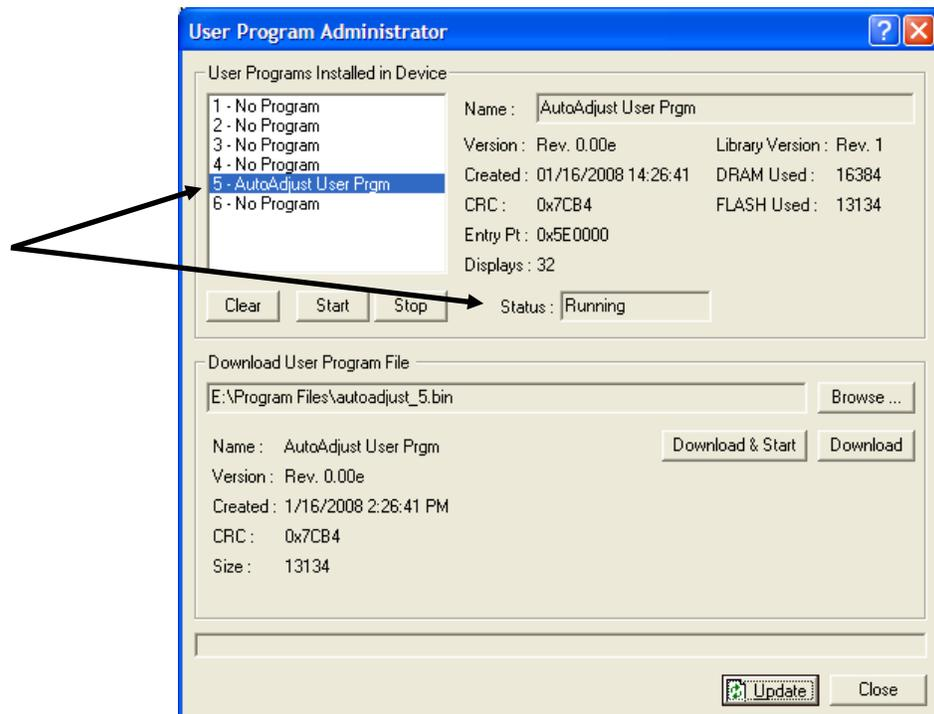

Figure 10. User Program Administrator
9. Click **OK**. The User Program Administrator screen displays (see Figure 10). Note that: